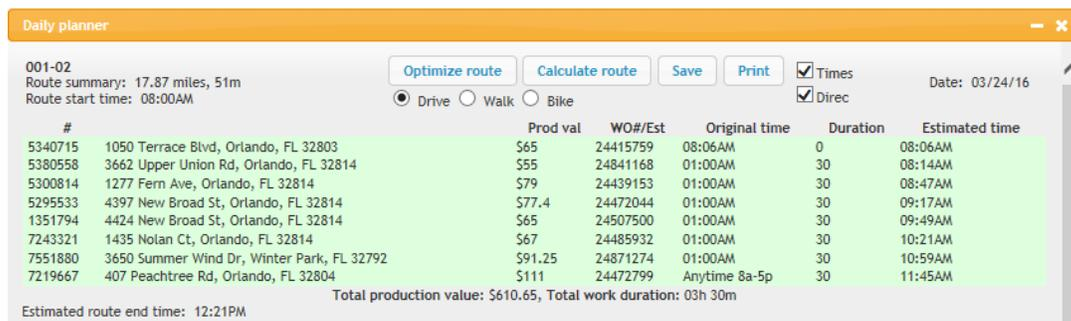

Figure 19
2. The route for the selected date will pop up to the right of the date list box. (Fig. 19) The pop up will give you four options Optimize route, Calculate route, Save, and Print.
3. To optimize the route click the optimize route option (Fig. 19, in previous step) and the appointments will arrange in the optimal driving order as determined by the closest way point to the assigned service center. If there is a better way to run the route, the appointments can be clicked on and dragged. Hit Calculate Route to estimate the drive time miles and time.